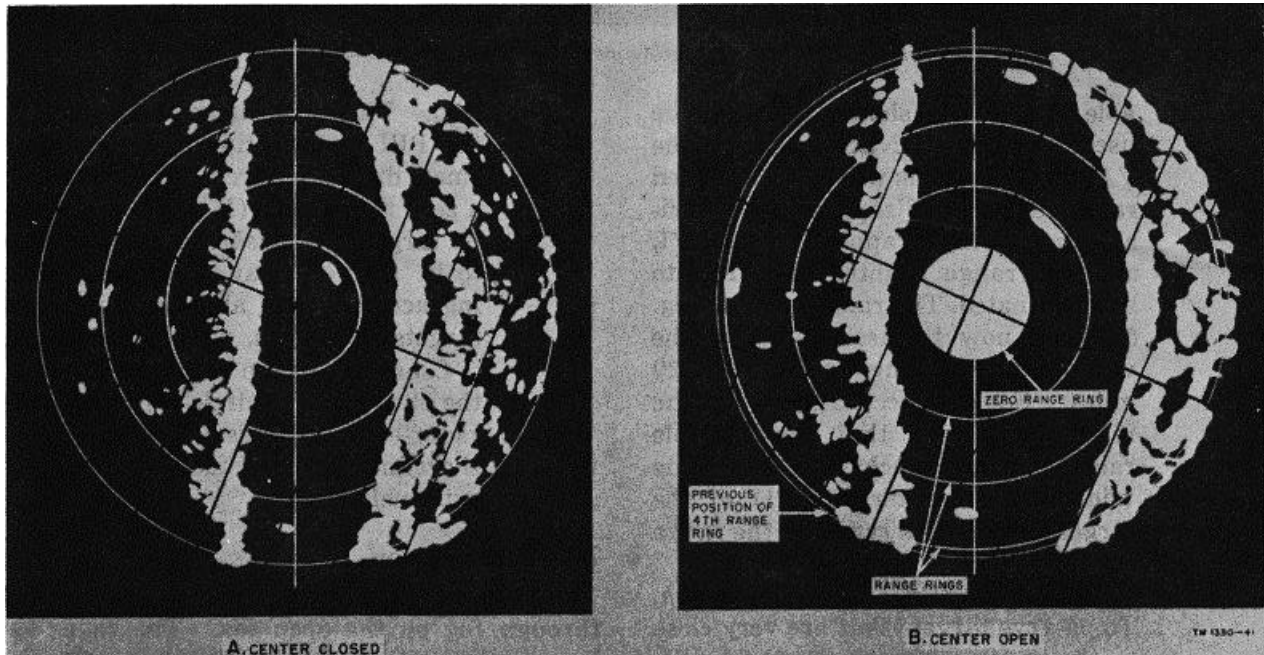

Figure 62. PPI presentation on 1-mile range with center closed and open.
- (3) *CENTER OPEN-CLOSED switch.* To observe targets that are very close to the radar-equipped vessel, set the CENTER switch to the OPEN position. This will cause the center of the PPI presentation to expand to a small diameter circle which becomes a zero range ring (B. fig. 62). Nearby targets are pushed out and appear to be farther away, improving bearing accuracy and allowing very close targets to be seen.